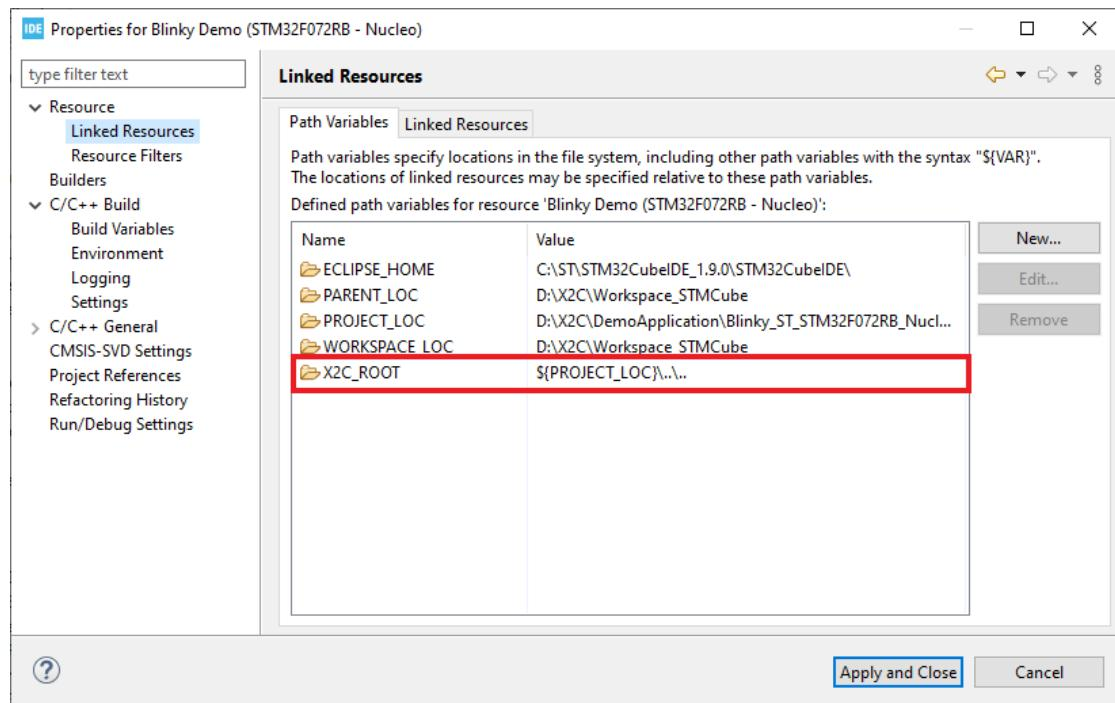
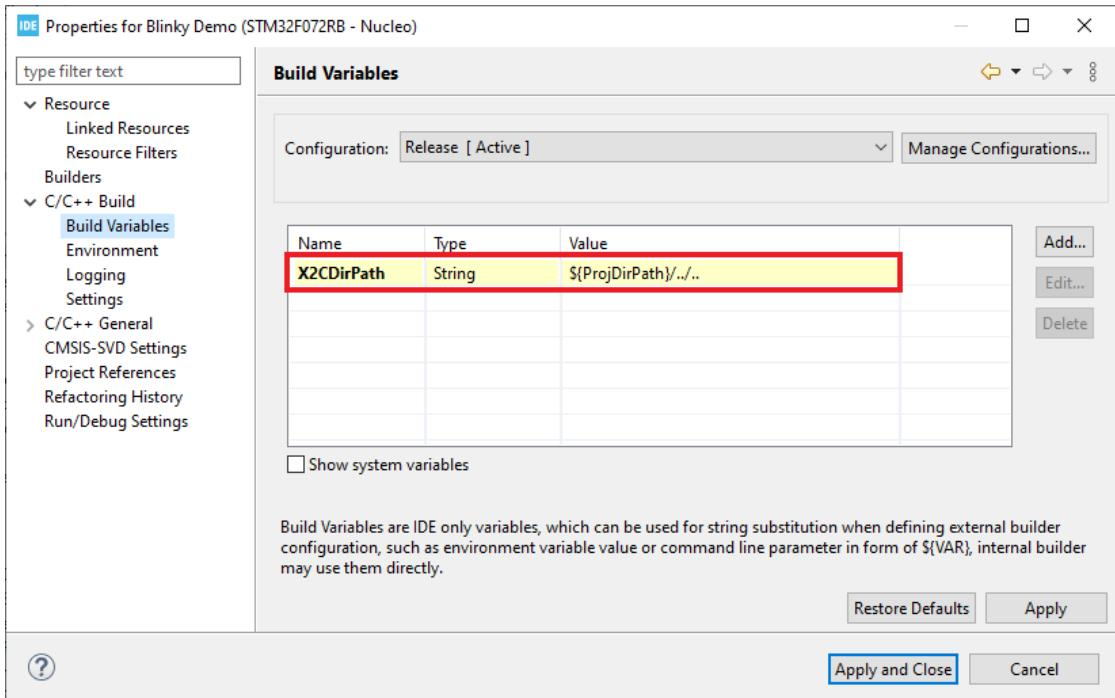

Figure 6: *STM32CubeIDE* resources settings
Figure 7: *STM32CubeIDE* build variables setting
3. In the *STM32CubeIDE* file structure of the *Blinky* demo project are two virtual folders *X2C-Blocks* and *X2C-Core*, which are linked relatively to the *X2C* directory. If the *Blinky* demo project is copied/moved to a different location, the resource property *X2C\_ROOT* as seen in Figure 6 and the build variable *X2CDirPath* as seen in Figure 7 have to be adapted.